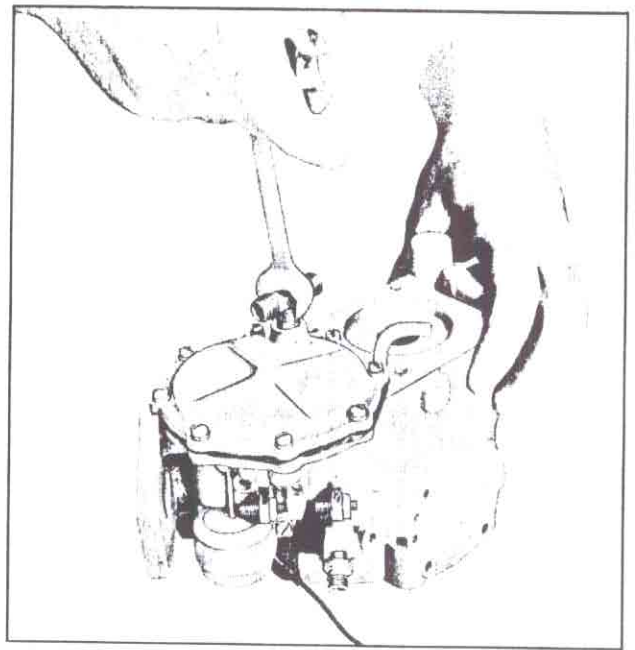

Fig. 135—Removing Main Control Diaphragm Tee
9. If replacement is required, remove tee fitting from main control diaphragm cover by using two wrenches as illustrated in figure 135. It should be noted that the restriction in the tee is toward the rear of the fuel meter assembly.
13. If the restriction tee was removed from the main control diaphragm cover, reinstall it, using two wrenches as shown earlier in figure 135. Tee should be finally positioned so that the restriction end of the tee is toward the read (fuel inlet end) of fuel meter assembly.